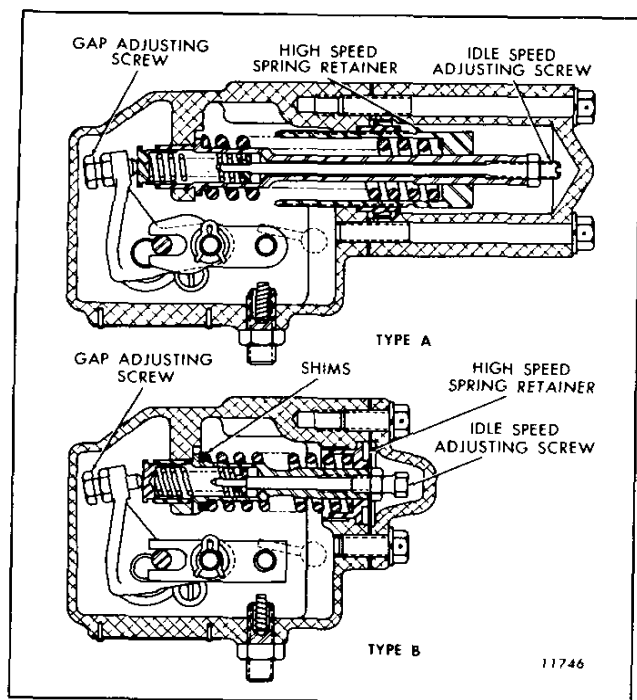

Fig. 2 – Differences Between Industrial and Vehicle Type Governor Assemblies
4. Loosen the high speed spring retainer locknut with spanner wrench J 5895 and remove the spring assembly (Fig. 2).